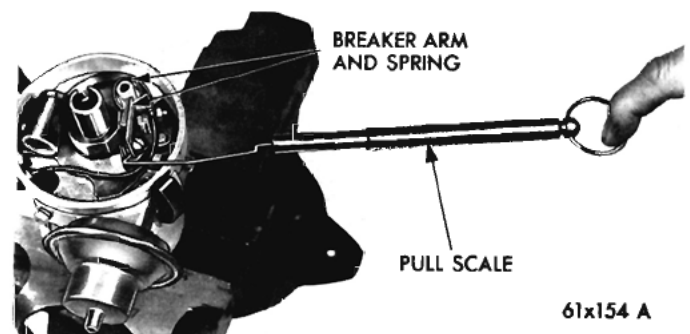

Fig. 9—Testing Breaker Arm Spring Tension
(1) Hook a spring scale Tool MTU-36 on the breaker arm and pull in a straight line at right angles to the point surfaces (Fig. 9). Take a reading as the points start to separate under the slow and steady pull of the scale. The spring tension should be 17 to 20 ounces. If the reading is outside these limits, loosen the screw which holds the end of the movable arm contact spring and slide the end of the spring in or out, as necessary to adjust tension.
(2) Retighten the screw and measure the spring tension.